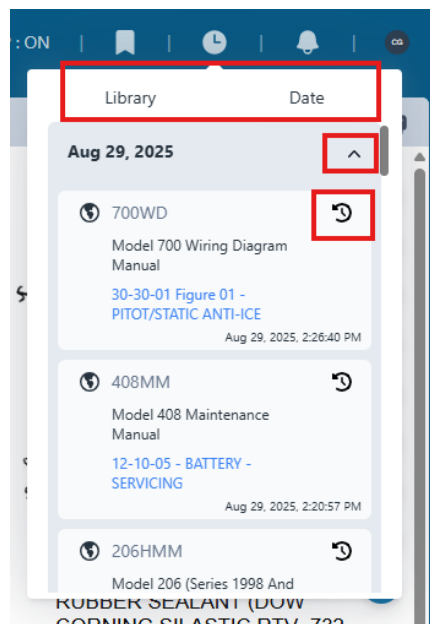

Figure 8 - History Drop-Down Options from the Header Toolbar
1. To access your 1View history, select the *History* drop-down from the Header toolbar. This will open a list of all recently visited documents organized either by Library or by Date visited (Refer to Figure 8).